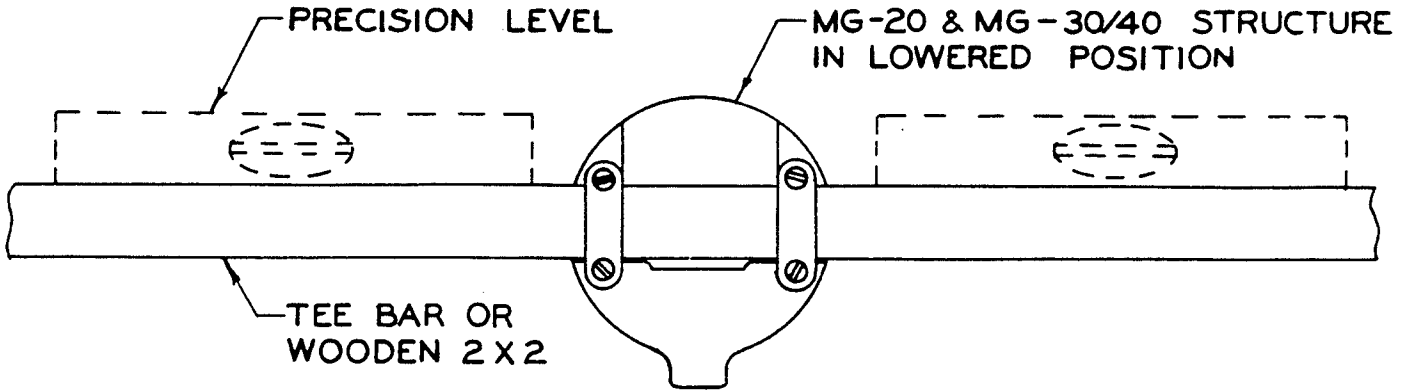

FIG. 6-13
2. To check the perpendicularity of Tee Bars, lower LIR structure (See Section 3 for lowering and raising instructions). For MG-20 and MG-30/40 LIR structures with Tee Bars, place a 15" (min.) precision level on the Tee Bar near the Tube Cap (See Fig. 6-13). For MG-20 and MG-30/40 LIR structures without Tee Bars, place a straight 3 ft. length of wooden 2 x 2 across the tube cap slot and then place the precision level on the wooden 2 x 2. Near the tube cap (See Fig. 6-13) check levelness on both sides of tube cap. For MS-20 LIR structures